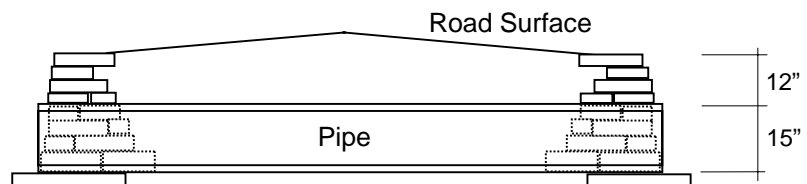

Figure 3: Longitudinal Section of Pipe Installation.
- Headwalls and endwalls should be built high enough to support the full depth of pipe cover recommended by the manufacturer: 12" of cover for plastic and corrugated steel pipe 24" in diameter and smaller (Figure 3).